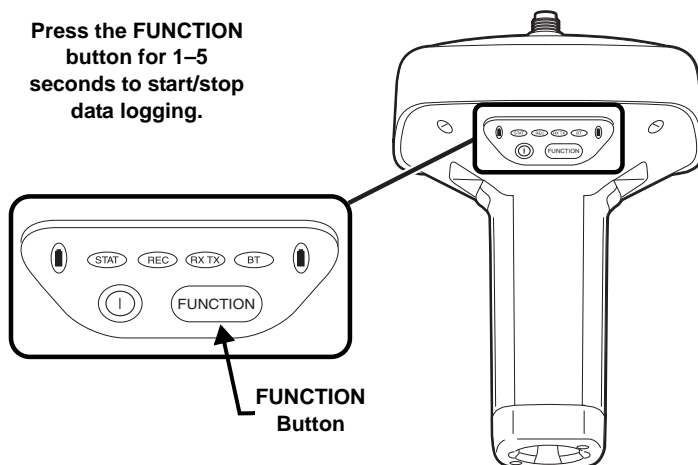

Figure 4-6. FUNCTION Button Functions
**To start/stop logging data**, press the **FUNCTION** button for 1–5 seconds (Figure 4-6).